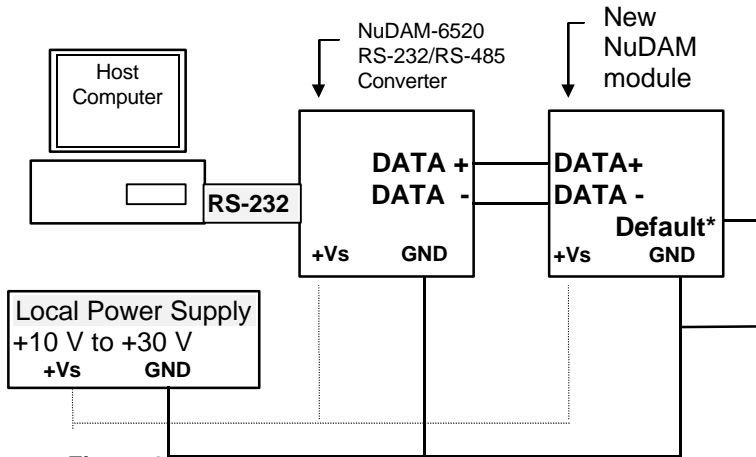

Figure 4-1 Layout for Configuring the NuDAM module
2. Connect a brand new NuDAM module with the RS-485. Refer to Figure 4.1 for detail wiring.